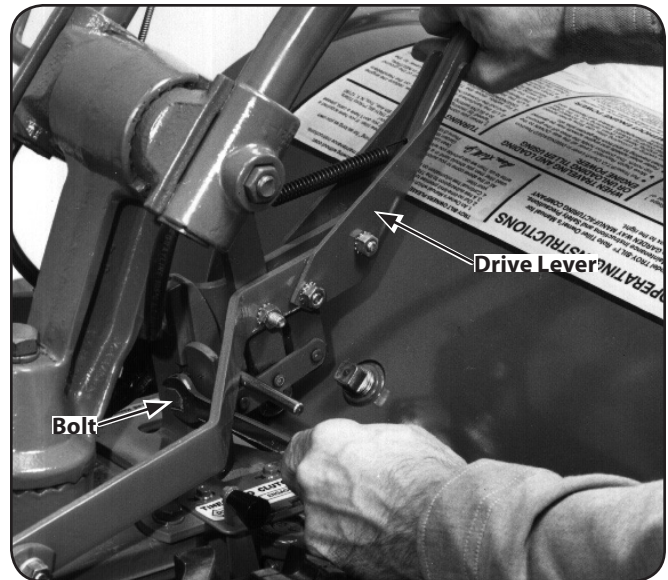

Figure 6-17
5. Use one hand to hold the drive lever in FORWARD while using a  $\frac{1}{16}$ " wrench to loosen — don't remove — the bolt at the back of the belt adjustment block. See Fig. 6-17. The adjustment block should be free to move either up or down.